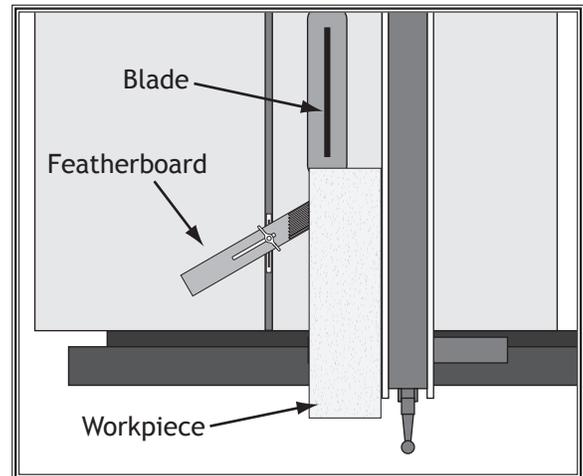

Figure 87. Featherboard installed in miter slot and supporting workpiece for ripping cut.
3. Slide featherboard miter bar into miter slot, making sure fingers slant toward blade, as shown in **Figure 87**.